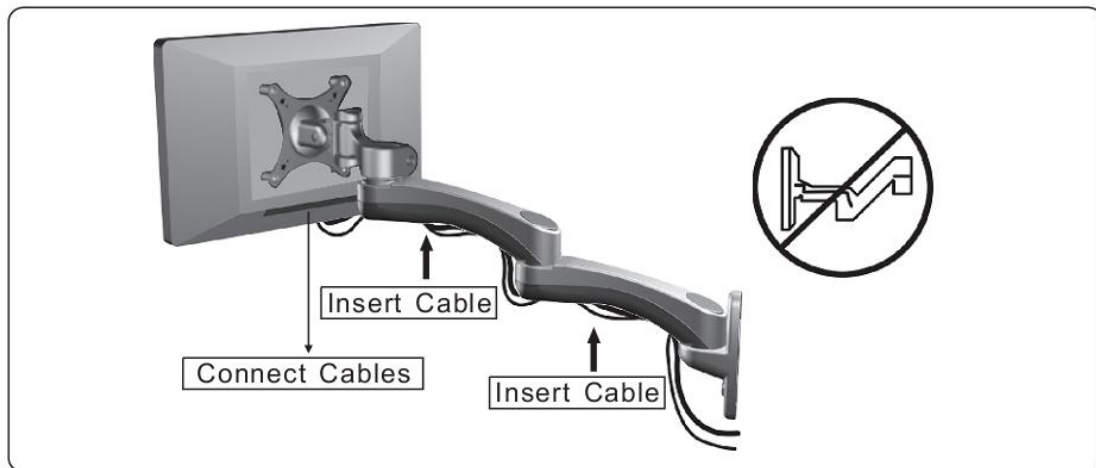

Figure 4-1
1. Connect cables to display monitor. Adjust the display to its fully extended position to ensure that there is sufficient cabling at the end of the Arms so that the cables are not stretched or pulled out when the display is moved (**See Figure 4-1**).